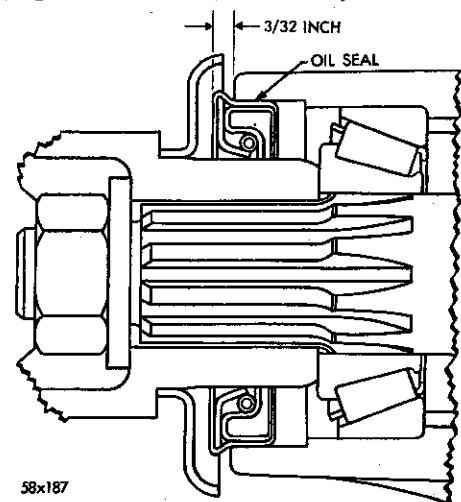

Fig. 23—Pinion Oil Seal Installation
(4) Install the bearing tubular spacer on the pinion shaft (large bore facing the rear bearing).
(5) Install the selected shim pack.
(6) Lubricate the front and rear pinion shaft bearing cones with Multipurpose Gear Lubricant.
(7) Install the front bearing in its cup in the carrier.
(8) Install the oil seal to the carrier with driver Tool C-3656, lip of seal must face the front bearing. The seal must be driven into the carrier until the tool bottoms against the front pinion bearing cone (Fig. 23).
(9) Insert the pinion shaft up through the carrier. While supporting the pinion in the carrier, install the companion flange with installing Tool C-496 or DD-999.
(10) Remove the tool and install the plain washer and nut (convex side of washer up).
(11) Hold the companion flange with holding Tool C-3281. Torque the companion flange nut to 240 foot-pounds. Rotate the assembly several turns in both directions to align the bearing rollers. Recheck the torque to 240 foot-pounds (torque may have diminished as bearing rollers were aligned by rotating).